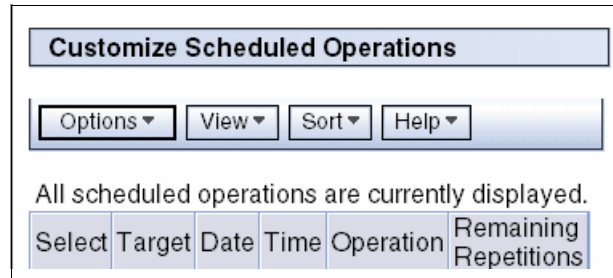

Figure 11-3 Customize Scheduled Operations
1. In the Customize Scheduled Operations window, select **Options** → **New** (Figure 11-3).